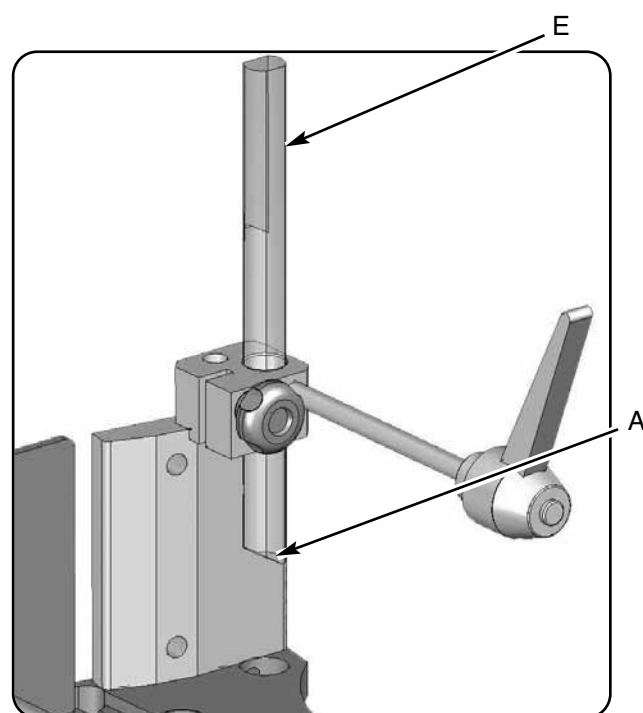

fig. 3.2.5
The worked part A fig. 3.2.5 it is necessary for the vertical containing of the edge.
Position the edge on the cutting line of the shears D fig. 3.2.5
The worked part A fig. 3.2.5 it is necessary for the vertical containing of the strip.
- at the same time the edge-pusher L fig. 3.2.5 pushes the edge against the small pin roller or rubber roller so that the edge starts moving.
Edge fence E fig. 3.2.5 is not adjusted properly